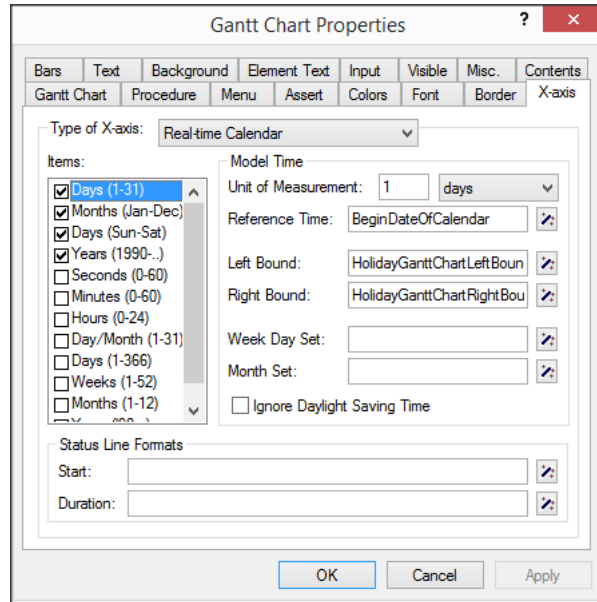

Figure 12.11: The X-axis tab of the **Gantt Chart Properties** dialog box
- ▶ check 'Days (Sun-Sat)', 'Days (1-31)', 'Months' and 'Years' as illustrated in Figure 12.11,